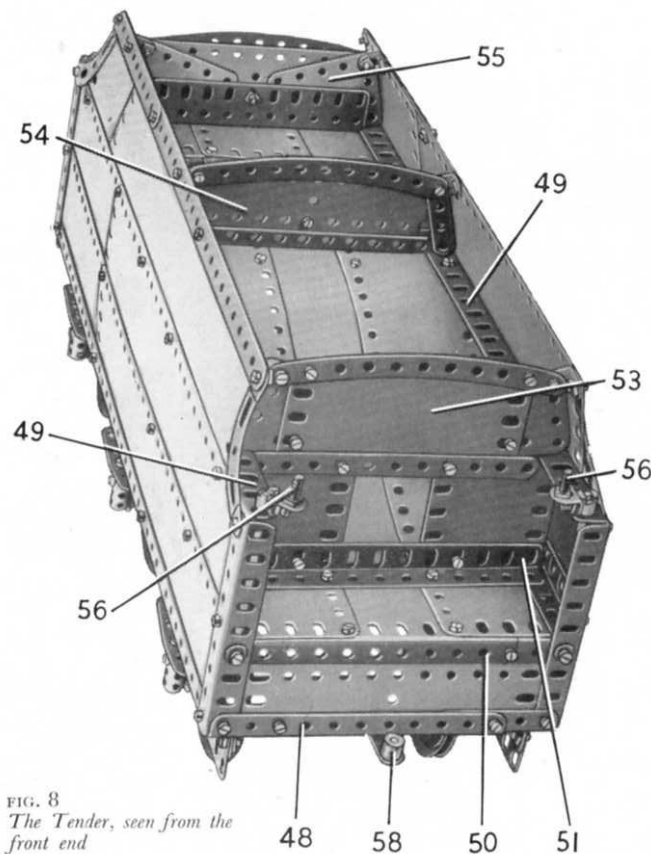

FIG. 8
Building the Tender (Figs. 8 and 9)
The partition (53) (Fig. 8) is made by bolting two $2\frac{1}{2}$ " \times $2\frac{1}{2}$ " Flexible Plates to the
The coupling for attaching the tender to the locomotive consists of a Threaded Pin (57) (Fig. 7), supported by a 1 " \times 1 " Angle Bracket. The Threaded Pin engages a Crank (58) (Fig. 8) that is lock-nutted to the front of the tender.